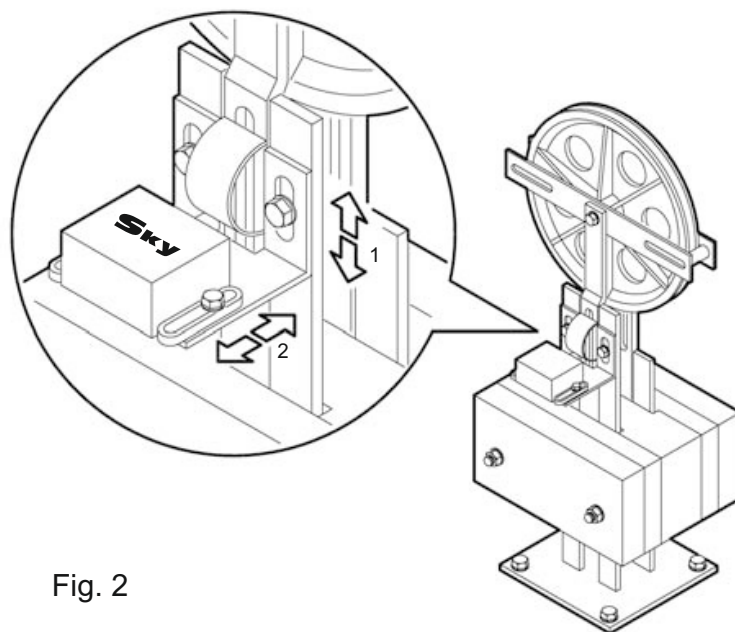

Fig. 2
- On the switch, adjust the horizontal connecting position on the slots (fig.2 – Pos. 2).